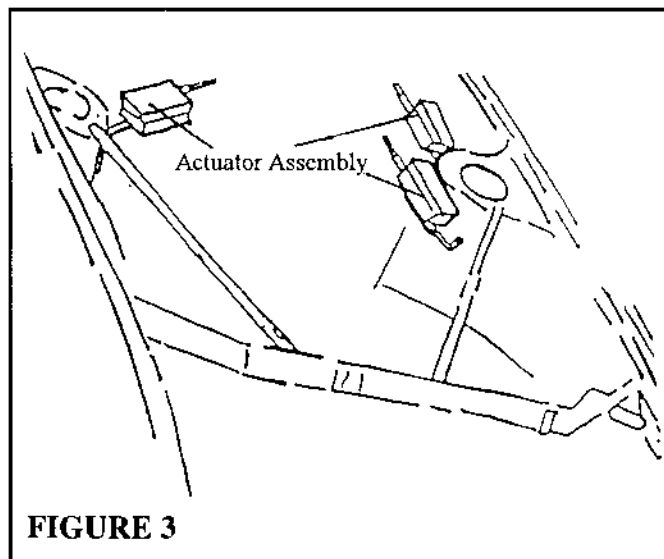

FIGURE 3
4. Once you have confirmed that the **Harness Assembly** and the **Cable Assembly** will reach their respective locations, mount the **Actuator Assembly** in the spot you have selected with Screws provided in the kit. (**Figure 3**)